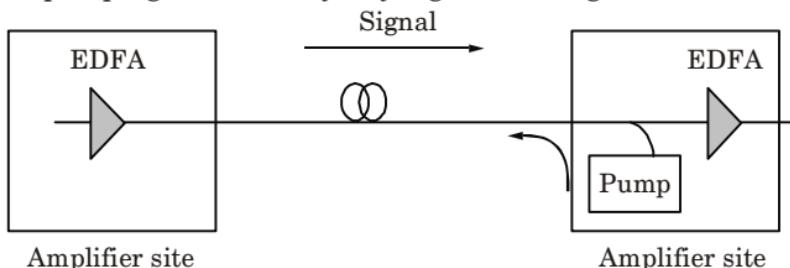

Fig. 8. Distributed Raman amplifier.
3. In the distributed case, the fiber can simply be the fiber span of interest, with the pump attached to one end of the span, as shown in Fig. 8.